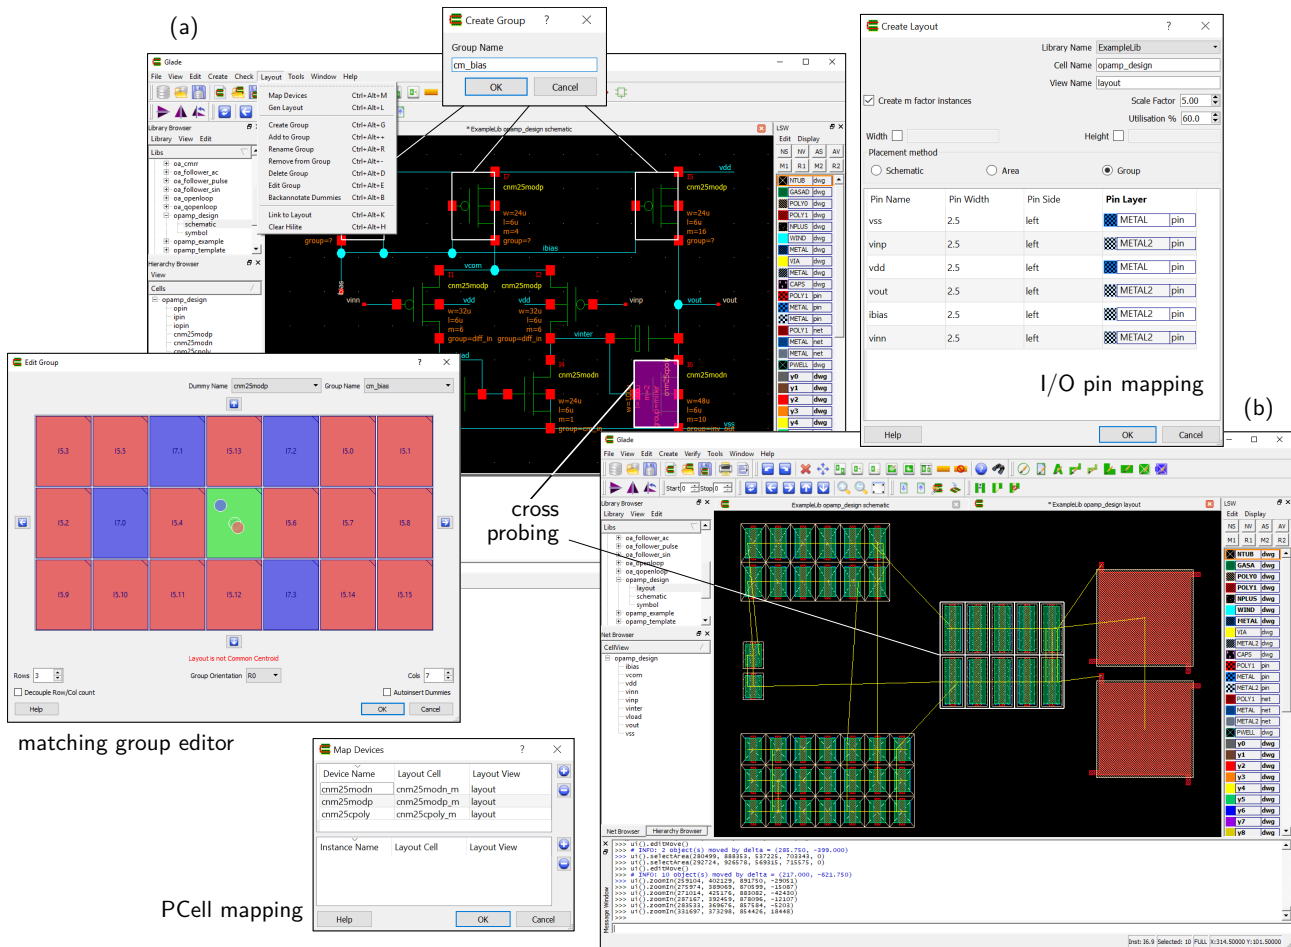

Figure 15 | Usage of Glade layout generation tool for managing matching groups (a) and for automated PCell placement (b).
For further assistance with the design of the full-custom layout of your IC, Glade also features the schematic-driven layout generation tool of Fig. 15. First, this tool allows to manage matching groups at schematic level through device property group. Such management includes the definition of device array dimensions and distribution of unitary elements for better matching (e.g. common centroid). Second, the same tool automatically places all the required PCells in the layout and highlights their terminal connectivity according to the schematic information. However, it is designer responsibility to arrange such arrays and to route their interconnections for best device matching and signal decoupling, respectively.
- ✎ Use the Glade layout generation tool of Fig. 15 to generate all PCell devices of your OpAmp in ExampleLib→opamp_design→layout.